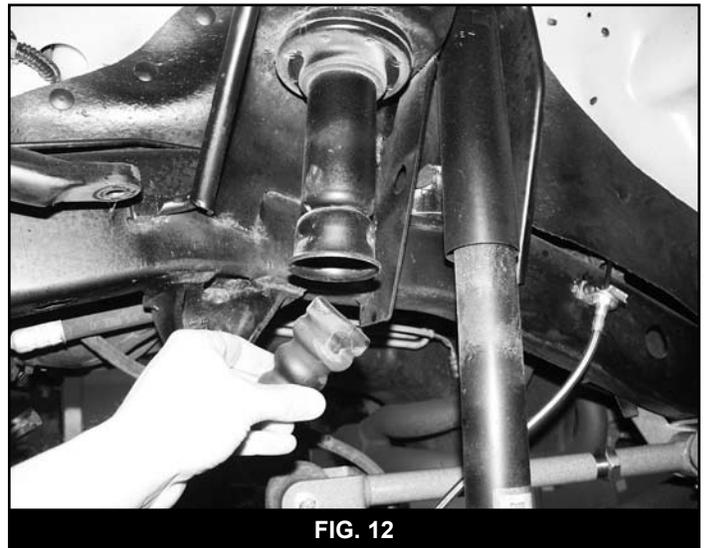

FIG. 12
34. Remove the front axle bump stops from the frame (Fig 12).